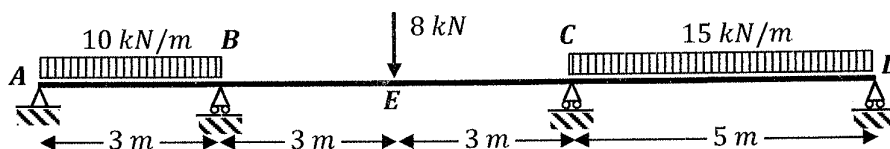

Figure Q2b
- (iii) Using the **Theorem of Three Moments**, analyse the continuous beam shown in **Figure Q2b** and draw the bending moment diagram. (EI is constant) [10 Marks]